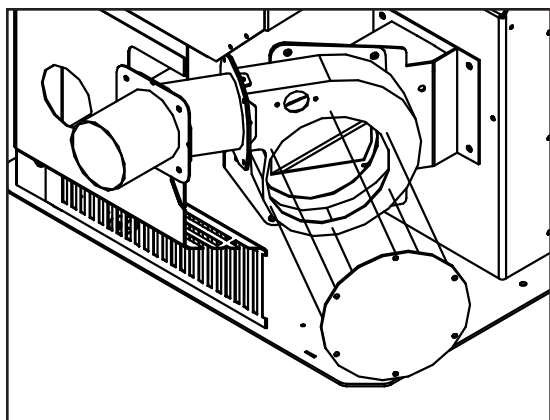

Figure 20: Exterior Blower Kit.
1. Remove the left hand cabinet side by removing the two (2) screws down the front. Loosen the three screws on the back of the cabinet side and remove panel.
2. Loosen the six (6) screws that hold the back grill in place. Lift the back grill off the screws.
3. Disconnect the Exhaust blower wires from the wire harness. Remove the exhaust blower motor from the housing; six (6) screws. Cover hole in housing with cover plate provided (see Figure 20).
5. Install the exhaust blower housing box into the pipe placed through the wall thimble, seal with high temperature silicone. Fasten the box to the wall with (4) four screws, seal edges of box to wall with clear silicone.